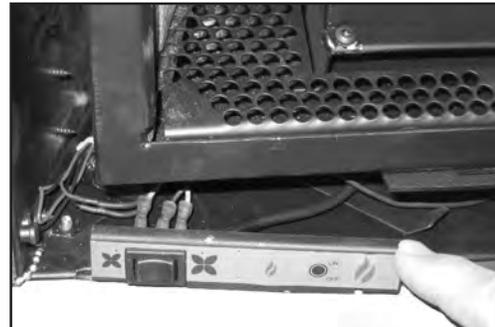

Figure 52. Remove/Install Control Panel.
- Pull the control panel straight out (see Figure 52). There are two (2) tabs on the bottom of the control panel that fit in two (2) slots in the Sonnet cabinet bottom.
- Using a utility knife cut out the rectangle on the control panel between the two (2) fan symbols.